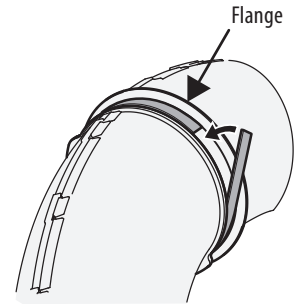

Figure 26
1. Peel the backing off of the self-adhesive foam strip (721-04388). Apply it to the upper chute, flush against the flange as shown in Figure 26.